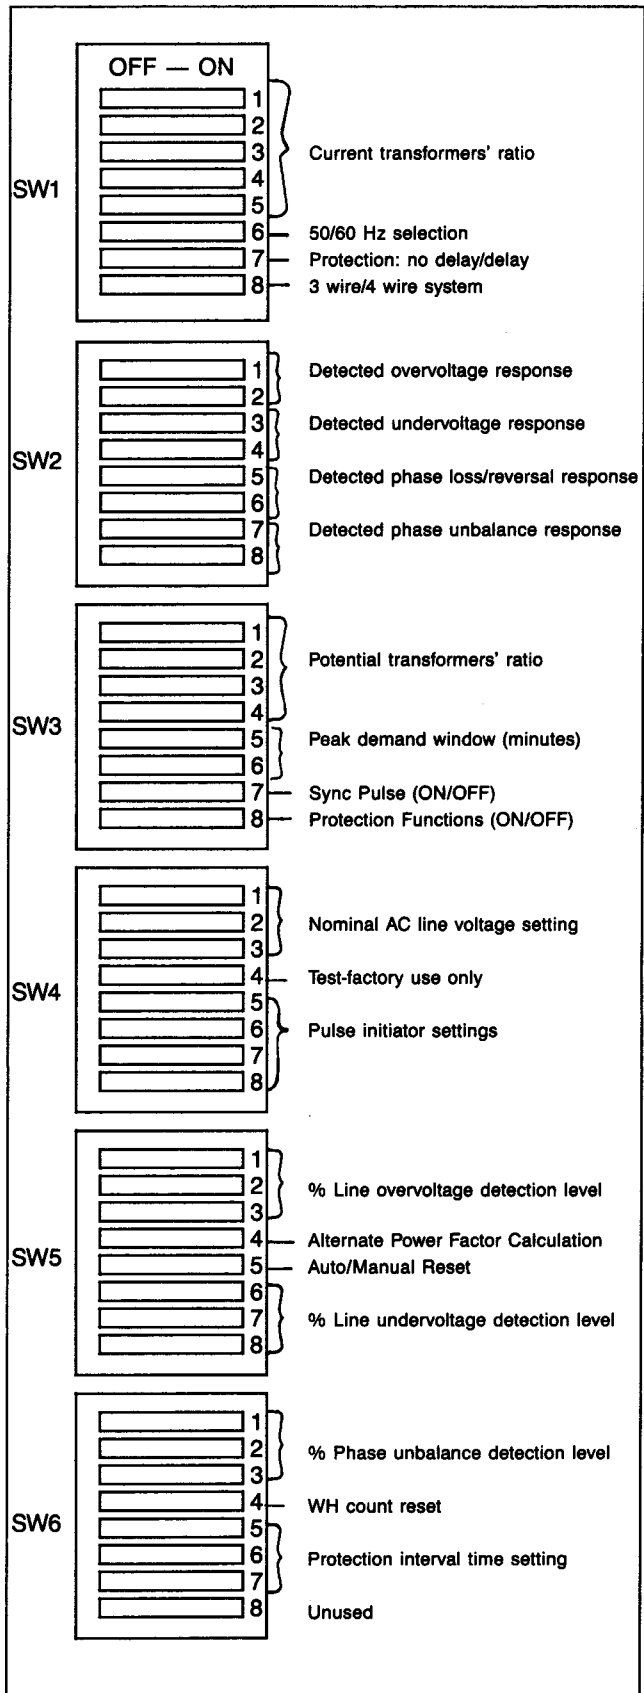

Figure 4.5 — DIP Switches — See Section 6 for programming information
4.3 DIP Switch Settings — The DIP switches located and accessed from the rear-right portion of the chassis must be properly set according to application requirements. Obtain the Installation Record Sheet produced specifically for the application. A blank Record Sheet is shown in the Tables 6.A, 6.C, 6.H, 6.K, 6.N, 6.Q. Note: Section 6 describes how to determine the DIP switch positions. Each of the DIP switches — SW1 thru SW6 — contains eight 2-position switches which are set in combination. (See Figure 4.5.) The switches are turned ON or OFF by sliding the switch. As you face the DIP switches, slide:
Observe the ON and OFF designations on the DIP switches shown in Figure 4.5. Always look for the OFF and ON designations on the hardware or printed circuit board to be sure you are setting the switches correctly.